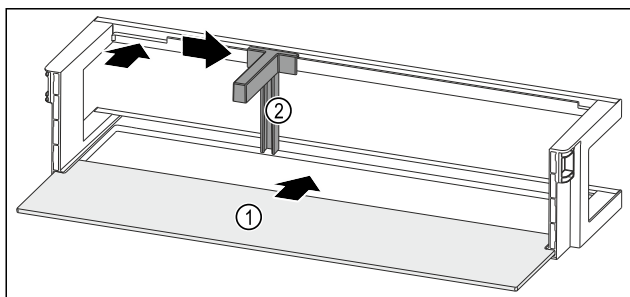

Fig. 232 Door rack with shelf
- Push the shelf Fig. 232 (1) into the side recesses.
- Insert the bottle holder Fig. 232 (2) in the recess.
- Push the bottle holder Fig. 232 (2) to the desired position to the side.